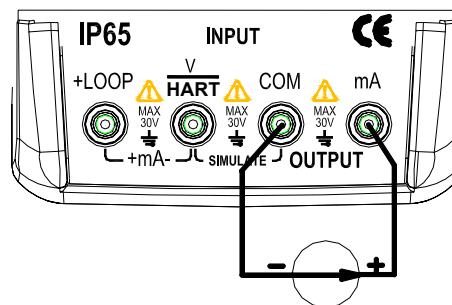

Figure 5-3
1. Insert one end of the test lead into the mA jack of the input (INPUT) terminal and connect the other end to the output of the user's meter as shown in Figure 5-3: